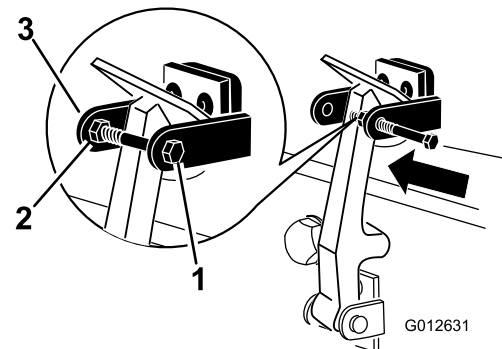

Figure 6
7. Screw the bolt into the other arm of the hood-latch bracket to lock the latch in position (Figure 6). Tighten the bolt but do not tighten the nut.